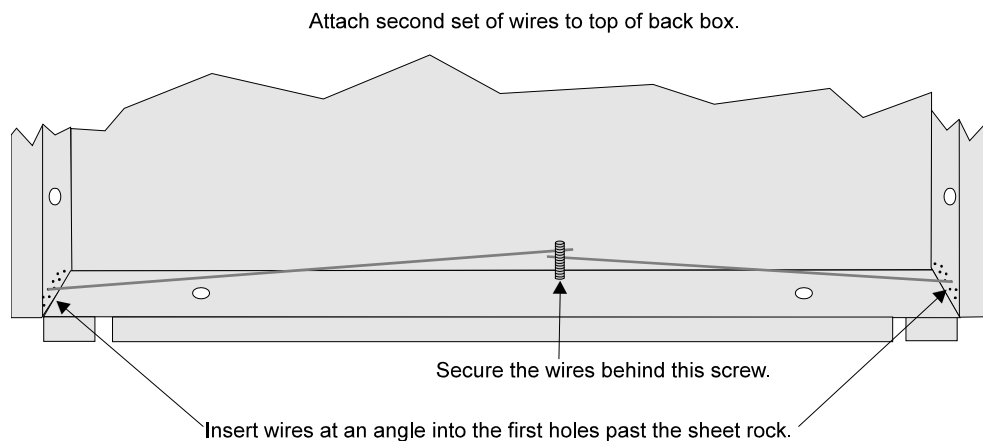

Figure 4.21 Flush Mounting the Backbox
3. Fit the annunciator backbox into the hole and stabilize with mounting wires. Angle the mounting wires into the first hole past the sheet rock. Secure the wires behind the screws as shown in Figure 4.21. When all four wires are in place, the backbox should fit snugly into the hole in the sheet rock.